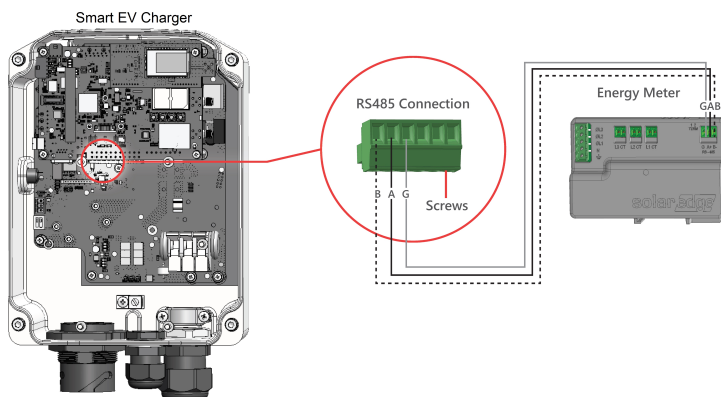

Figure 13: Meter connection
2. Remove the seal from one of the openings in the communication gland at the bottom of the Smart EV Charger and insert the RS485 wires from the meter through the opening (see *Figure 13*).
3. Remove the 3-pin connector from the RS485-1 port on the communication board (see *Figure 13*).
- Loosen the screws of the connector and remove the DC-to-DC unit wires. Twist the DC-to-DC unit wires together with the Energy Meter wires (B with B, A with A, G with G). (see *Figure 13*).